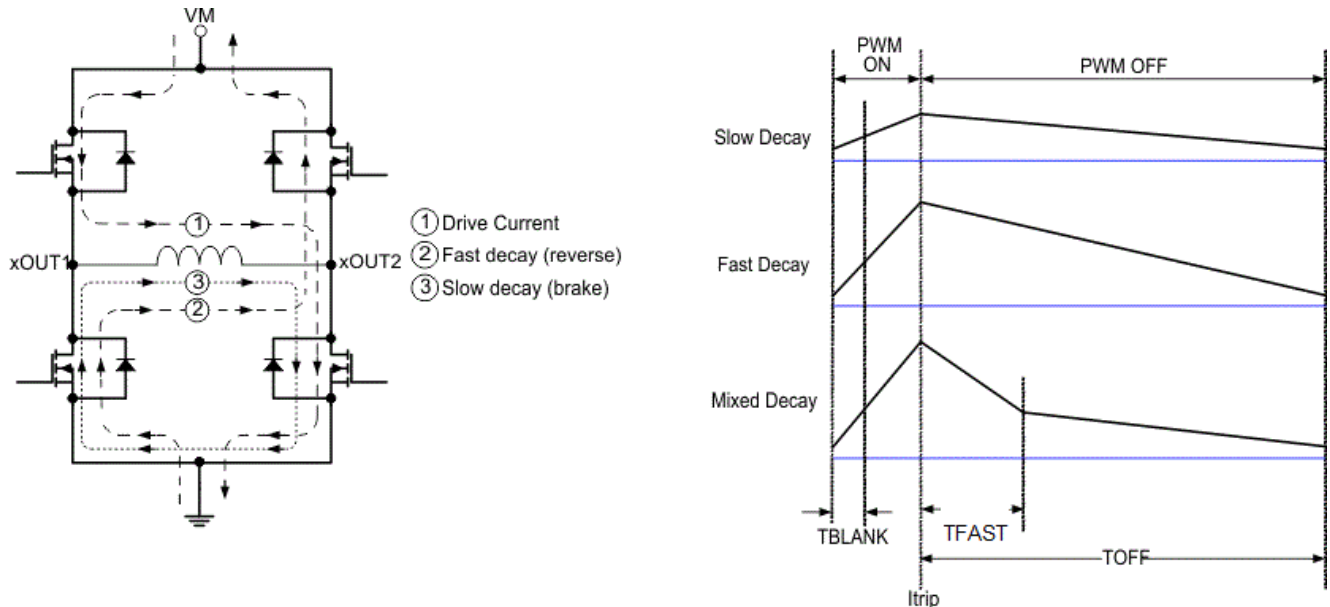

图 7-6. Decay Modes
During PWM current chopping, the H-bridge is enabled to drive through the motor winding until the PWM current chopping threshold is reached. This is shown in 图 7-6, Item 1.
Once the chopping current threshold is reached, the H-bridge can operate in two different states, fast decay or slow decay. In fast decay mode, once the PWM chopping current level has been reached, the H-bridge reverses state to allow winding current to flow in a reverse direction. Fast decay mode is shown in 图 7-6, item 2. In slow decay mode, winding current is re-circulated by enabling both of the low-side FETs in the bridge. This is shown in 图 7-6, Item 3.